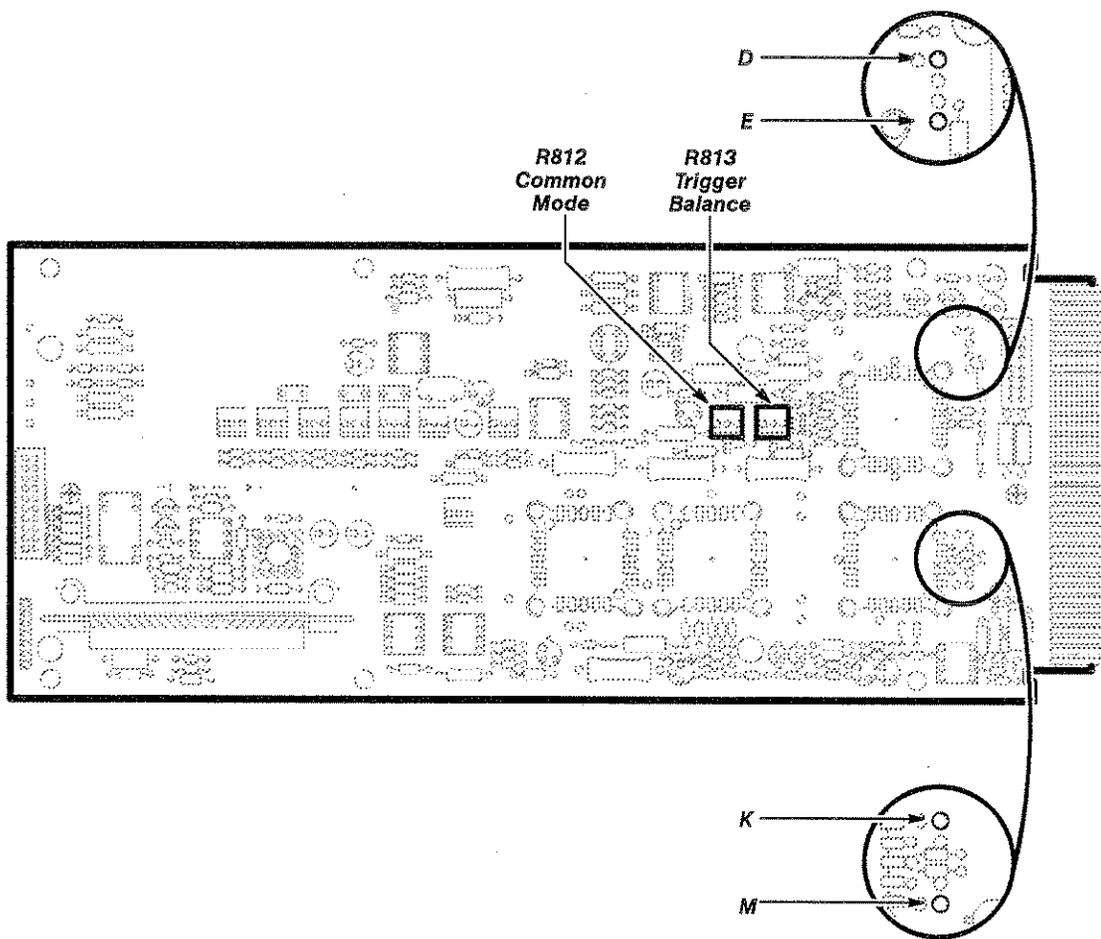

Figure 2-1 — A1 Main Board Trigger Balance Test Point and Adjustment Locations
- Step 2: Connect the DMM leads to points K and M. See Figure 2-1 for test point locations.
- Step 4: Connect the DMM leads to points D and E. Refer to Figure 2-1 for test point locations.
- Step 6: *Adjust* TRIGGER BAL adjustment, R813 on the A1 Main board, to  $0 \pm 20\text{ mV}$ . See Figure 2-1 for adjustment locations.